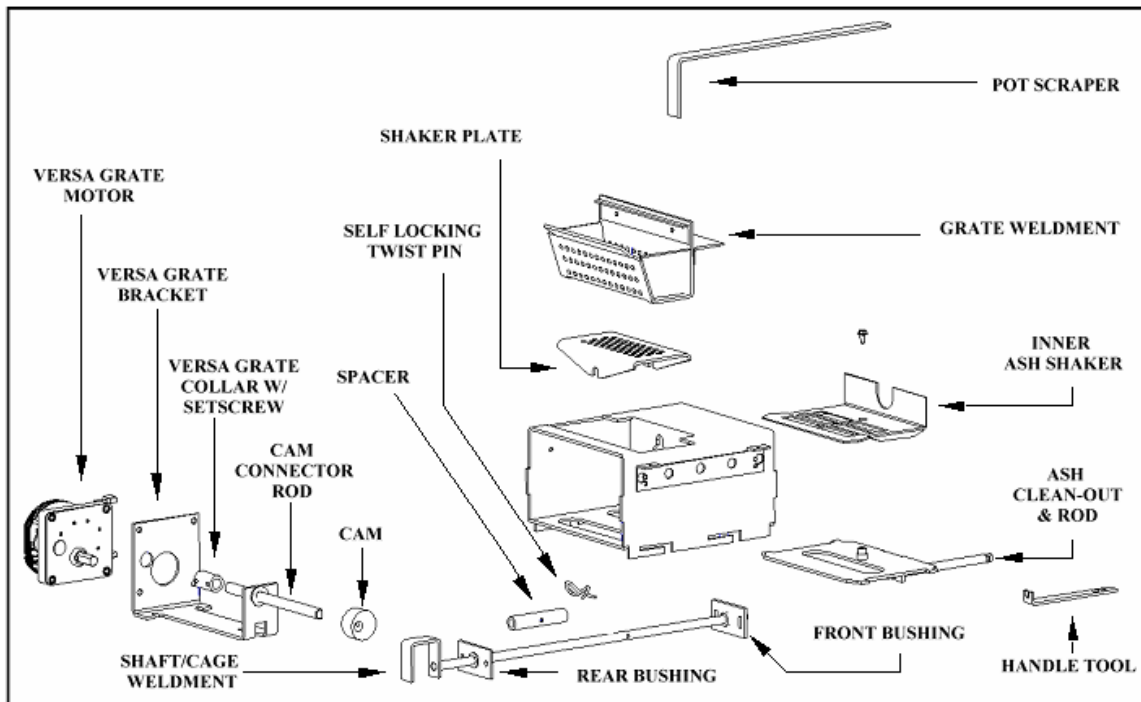
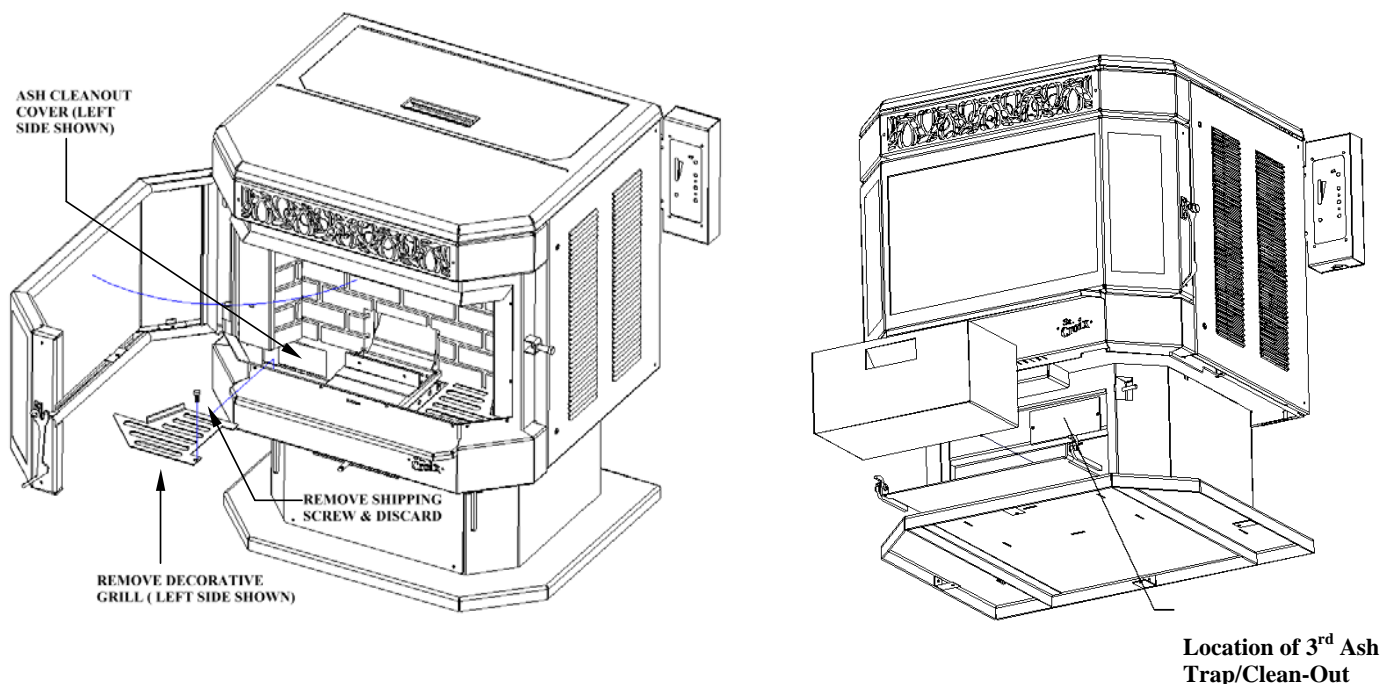

Figure 5
Figure 7
The Versa Grate System (see Figure 5 below). The benefit of this feature is that the stove can operate for longer periods of time, with most
First, let's become familiar with the burn system in a St. Croix Pellet stove. Remember, cleaning frequency may change dramatically from one fuel to another. Pellets with high ash content or that have increased amounts of impurities or high moisture content. Every St. Croix Pellet stove model will have the same system as shown in figure 5 below. There is a 2-piece burnpot. The top Part is called the **"Grate Weldment"**. This sits on top of the **"Shaker Plate"**. This in turn sits on top of the **"Shaft/Cage Weldment"** and is held in place with the **"Spacer"** & **"Self Locking Twist pin"**. The Shaft/Cage weldment is moved towards the front of the stove and then towards the back of the stove by the **"Cam"** that is connected to the **"Versa Grate Motor"**. This motion is constant, while the stove is in operation. The only parts that may need to be removed for cleaning purposes during the Daily or Periodic Maintenance are the **"Grate weldment"** and the **"Shaker Plate"**. This is to check the holes in the burnpot system to see if they are plugged.
1. Check Grate Weldment and Shaker Plate (See figure 5) to determine if holes are plugged. Clean as needed. With proper precautions the grate may be partially cleaned while the stove is hot. Follow these steps:
- d. Use the “scraper” provided to move the burning pellets to one side of the grate, leaving the ash in the bottom of the grate. (See Fig 5 & 6)
2. The Afton Bay has 3 Ash Traps/Clean-Outs, 2 of which are located below the rear brick panel. The third is located behind the Ash Pan. Remove covers and clean regularly. (See Figure 7 below) Be sure to clean both sides. Use scraper shown in figure 5 & 6 to scrape ash into ash pan. Use a vacuum (cold stove only) to thoroughly clean these areas.
3. Clean burn grate holes at least weekly. Remove the burn grate and use a small metal object to clean out plugged holes. (See fig. 5 on page 9.)
1. **Spring Shutdown.** After the last burn in the spring, cool the stove. Remove all pellets from the hopper and the auger. Thoroughly clean the burn grate, burn grate box, ash pan and ash traps behind the ash pan. (*To locate the ash traps see Figure 7 on page 11*)